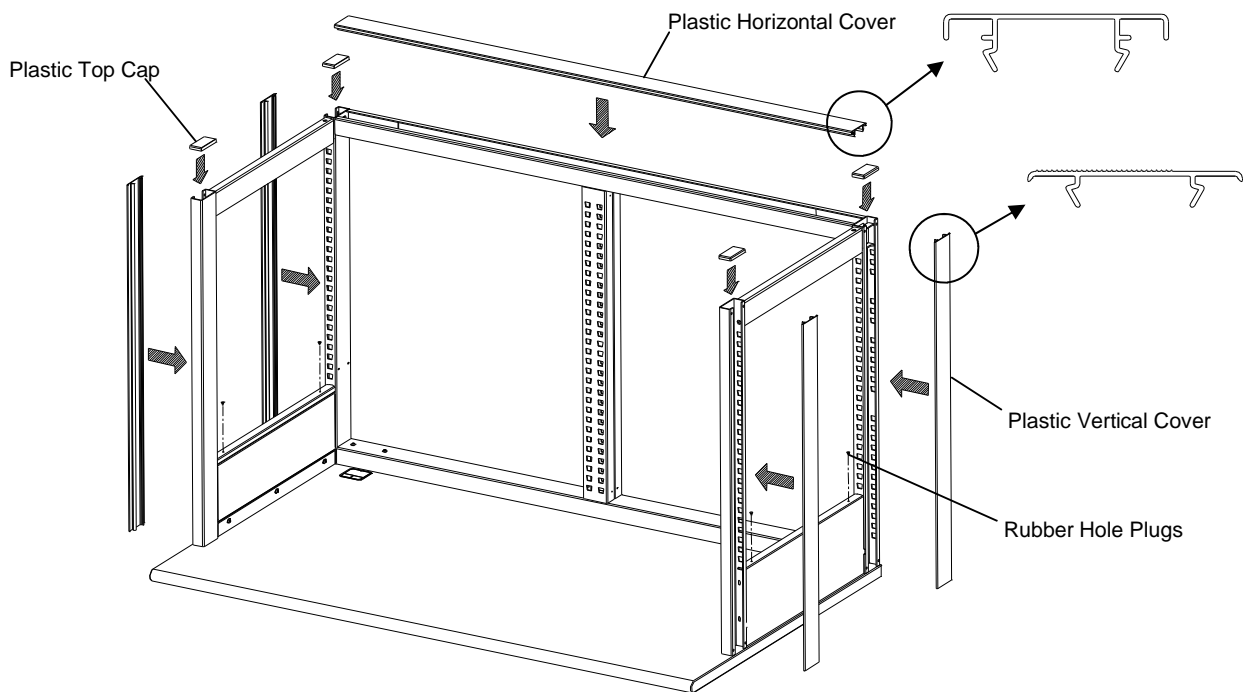

Figure 7.
- Attach the four Plastic Vertical Covers, four Plastic Top Caps and four Rubber Hole Plugs to the “D” Frames. Attach the Plastic Horizontal Cover to the top of the frame. See figure 7.